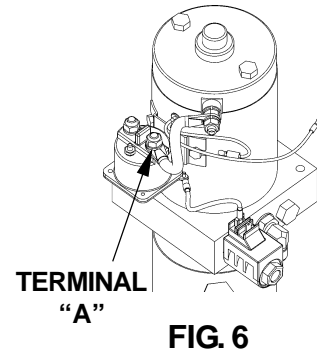

FIG. 6
1. Use voltmeter to verify that power is being supplied to Solenoid Terminal "A". Recharge the battery if voltmeter indicates less than 12.6 Volts (FIG. 6).